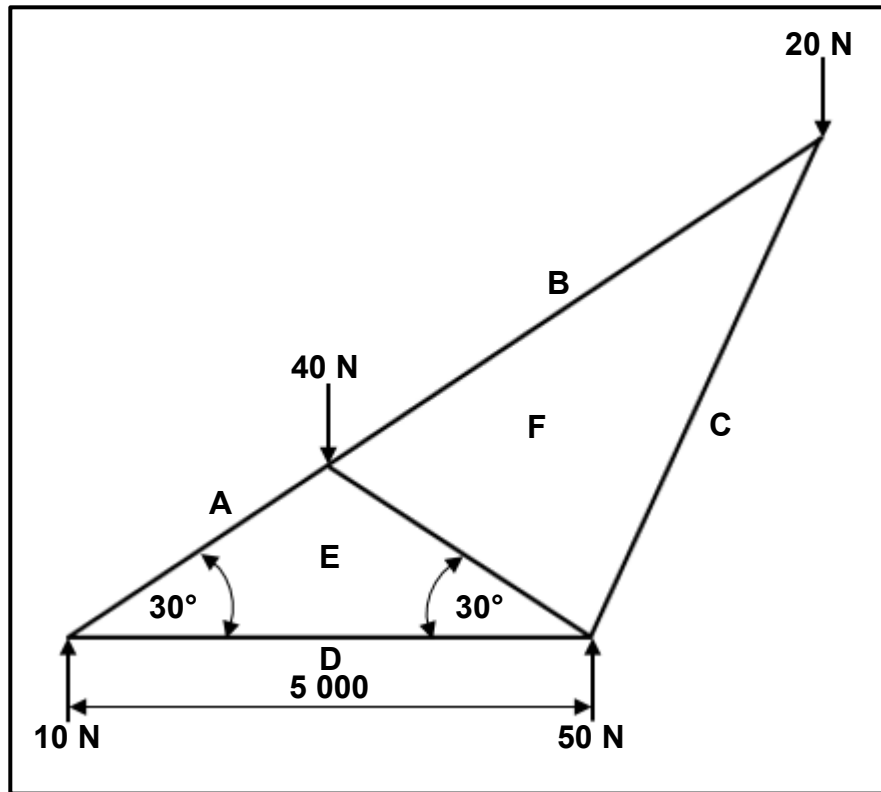

FIGURE 7.3
- Bending moment diagram: 1 Nm = 1 mm (5)
7.3 FIGURE 7.3 below shows a roof truss for a warehouse. Study the diagram and answer the questions that follow.